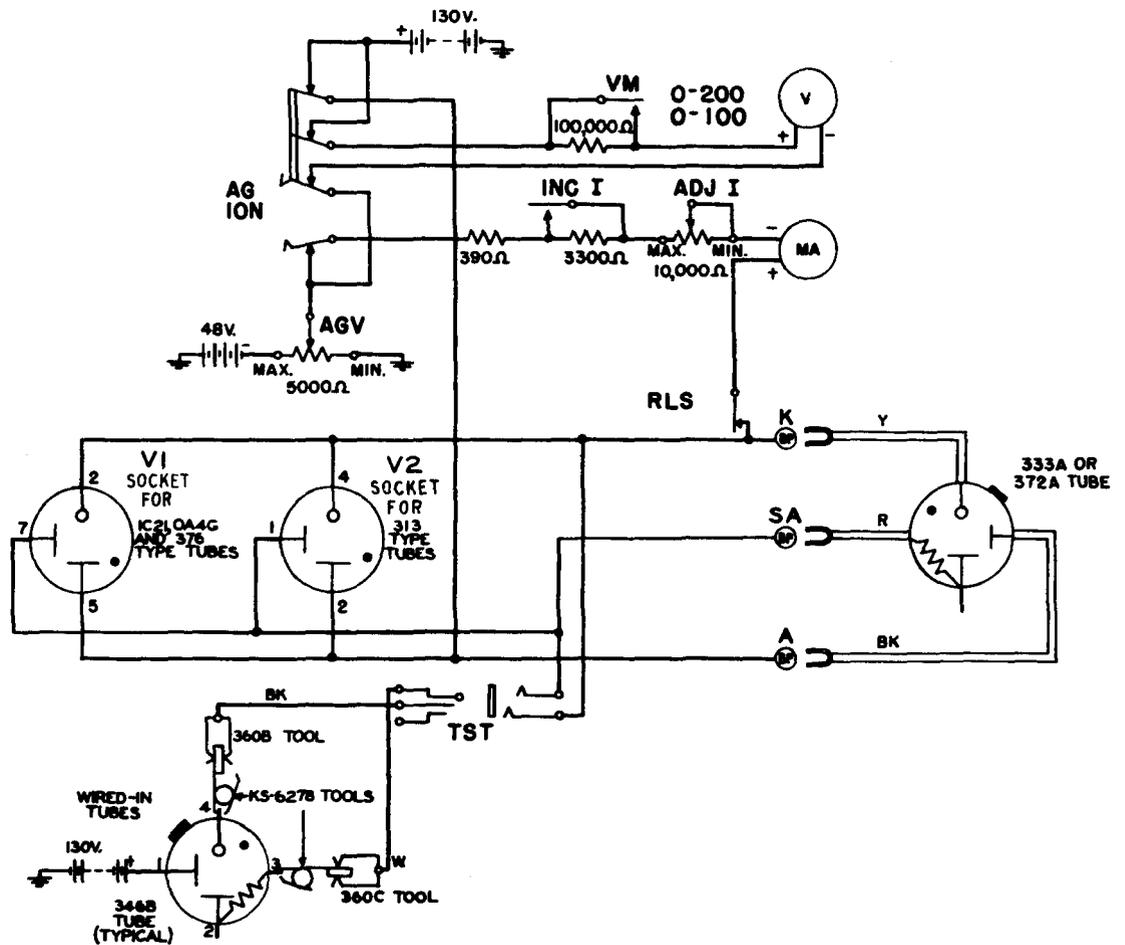

Fig. 4 - Anode Gap - Forward Voltage - Three Element Tubes
4.11 The circuit arrangement for applying the forward or working voltage is shown in Fig. 4.